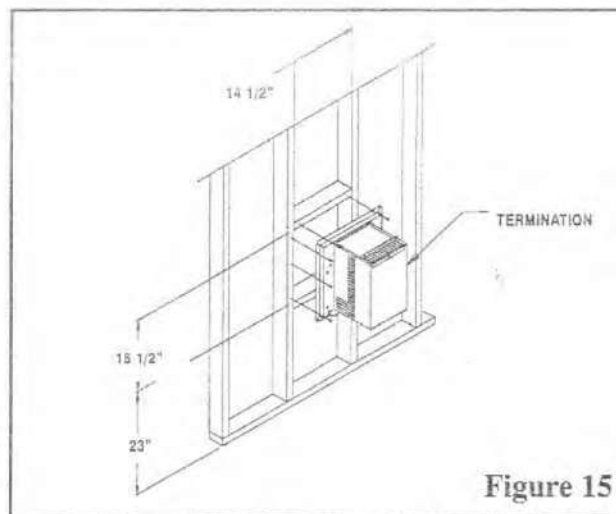

Figure 15
- 3.) Locate the position where the vent passes through the wall. Frame a 15 1/2" x 14 1/2" opening for the termination. See figure 15. **THE TERMINATION SHOULD NOT BE RECESSED INTO THE WALL OR SIDING.**